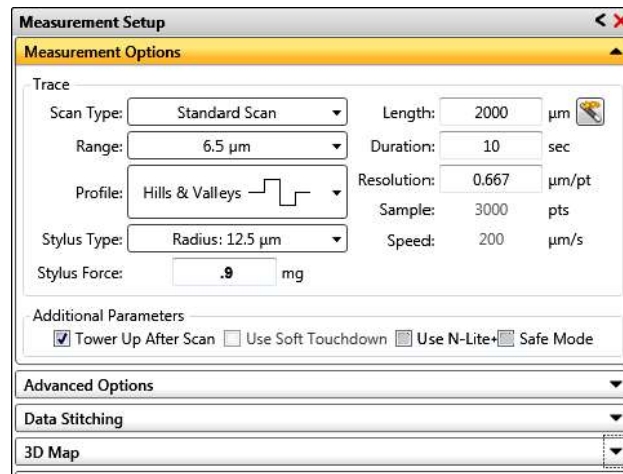

Figure 10: Measurement Options Window
8. On the Measurement Options tab of the Measurement Setup window, select Standard Scan (see Figure 10).